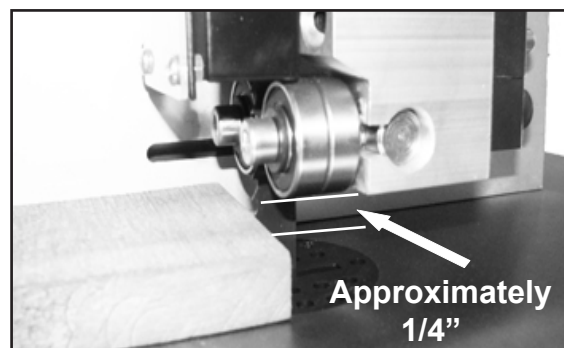

Figure 20
**Note:** The bottom edge of the guide bearings should be approximately 1/4" above the top surface of the work piece. (Fig.20)